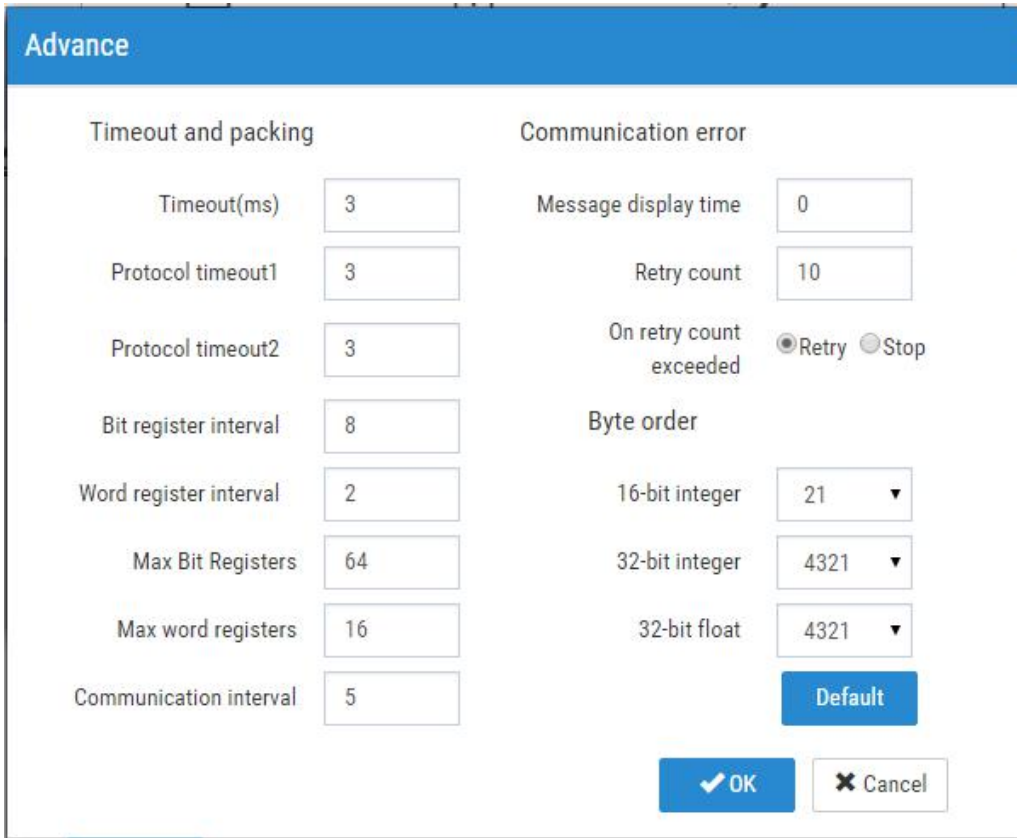

Fig. 4.4-9 The "Advance" window of the "Network PLC Setting" dialog
(4) After clicking the "Advance" button in the "Network PLC Setting" dialog, the "Advance" window will pop up. The other communication parameters can also be modified and configured here, as shown in Fig. 4.4-9. Click the "OK" button to confirm, and return to the "Network PLC Setting" dialog.